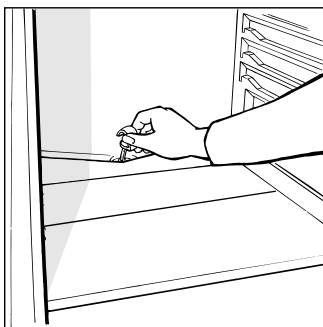

Fig. 2
This appliance defrosts automatically and the water is channelled to the back toward the drain installed for this purpose (fig. 2). Here, the heat produced by the compressor will make it evaporate. The only thing you must do is to periodically check and clean the hole of the drain, which is located behind the fruit and vegetable crisper, keeping it clear so that the water drains properly.
- The hole for draining the water from the frost is clogged (see fig. 2).